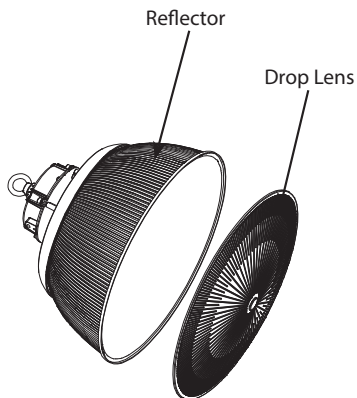

Fig: 1
1. Place the **Drop Lens** on the **Reflector** as shown in Fig. 1, and 2.